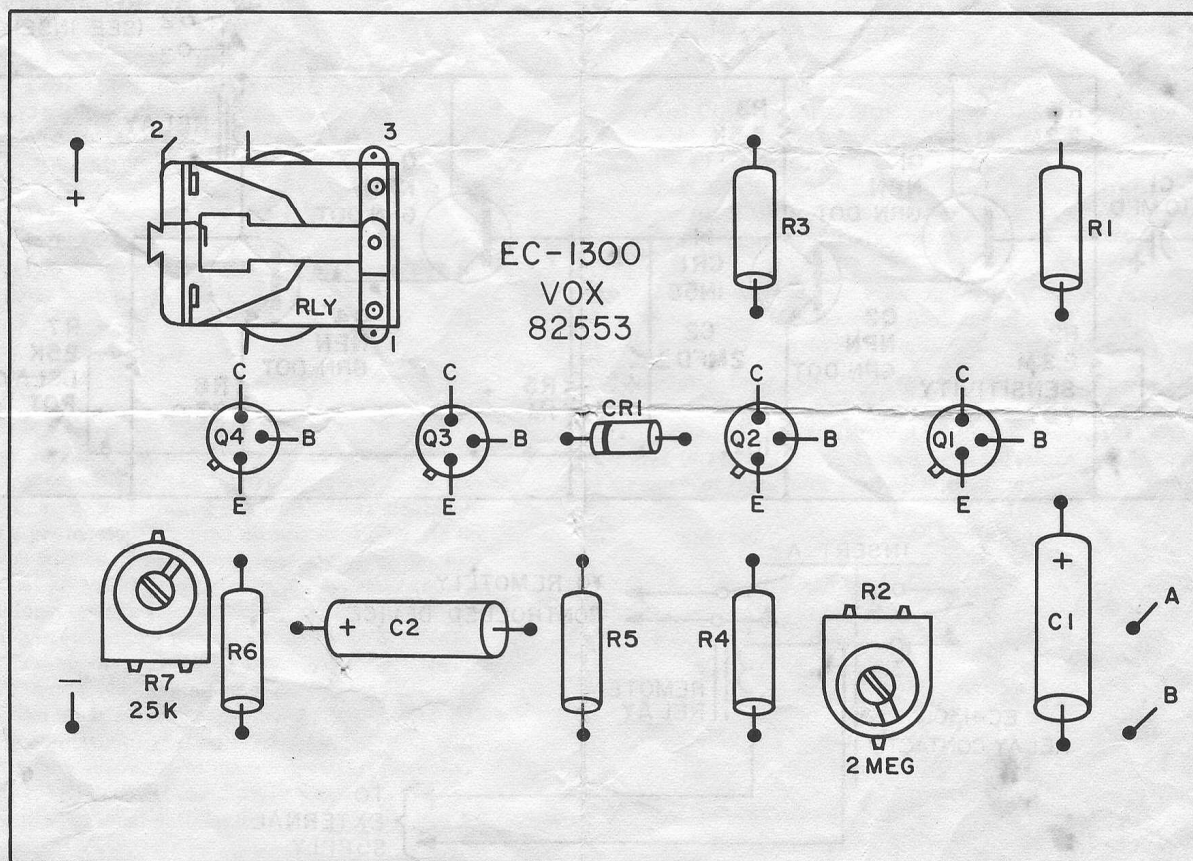

Figure 4. Printed Circuit Board
Assemble your EICOCRAFT kit as follows, using figure 4 on the opposite page. After you have completed each step, make a checkmark or cross out the number next to the step so that you will have a record of your work.
1. () ORIENT printed circuit (PC) board as shown in figure 4 with the COPPERFOIL SIDE down.
INSTALL the following resistors, diodes, and capacitors on the PC board. BEND both leads of each component at right angles to the body, then INSERT component leads into the two drilled holes in the PC board at the position shown in figure 4. CUT the leads 1/4" from the board and BEND back FLUSH with the COPPERFOIL SIDE. SOLDER the leads to the COPPERFOIL. See GENERAL CONSTRUCTION HINTS for proper installation and soldering techniques.
12. () SLIP the two leads from the relay into the corresponding holes in the PC board, with the relay positioned as shown in figure 4. ATTACH the relay FIRMLY to the PC board with the No. 4-40 x 1/4" screw, then solder the two relay leads to the COPPERFOIL.
1. Set the delay control R7 (figure 4) fully clockwise.
2. When all connections are completed, speak or whistle into the microphone and adjust sensitivity control R2 (figure 4) with a small screwdriver until the relay closes.
4. Adjust delay control R7 (figure 4) so that the relay remains closed for the desired interval.